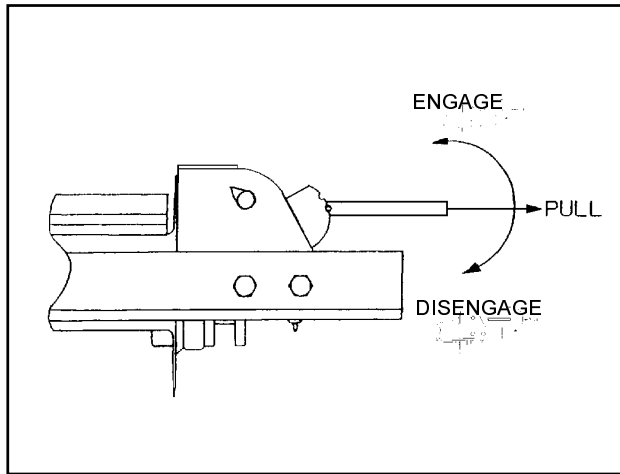

Figure 3-4 12,000# Winch Clutch
3-12.2 The **WINCH CLUTCH HANDLE** (See **Figure 3-4 and 3-5**) is located on the right or curb-side end of the winch assembly. The function of the **WINCH CLUTCH HANDLE** is to engage or disengage the winch, allowing it to respond to the **WINCH HYDRAULIC LEVER**. For trailers equipped with optional **PNEUMATIC WINCH CONTROL** (15,000 lb. and 20,000 lb. winches only), the control is a switch on the control panel (See **Figure 3-1**). If the semitrailer also has the optional **WINCH AIR TENSION**, it also is controlled by the same switch on the control panel. For the 15,000 lb. and 20,000 lb. winch, this switch controls both the clutch and the winch air tensioner simultaneously. For the 12,000 lb. winch, this switch controls only the air tensioner.
a. The **12,000 lb. WINCH CLUTCH HANDLE** has two positions: (See Figure 3-4)